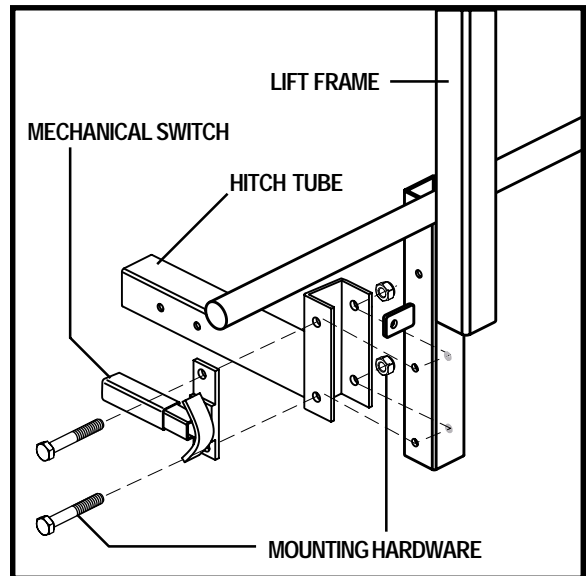

Figure 1. Hitch Tube Assembly
2. Position the mechanical switch along the driver's side of the hitch tube. See figure 1.
3. Mount the mechanical switch and hitch tube to the lift frame using the previously removed mounting hardware. See figure 1.